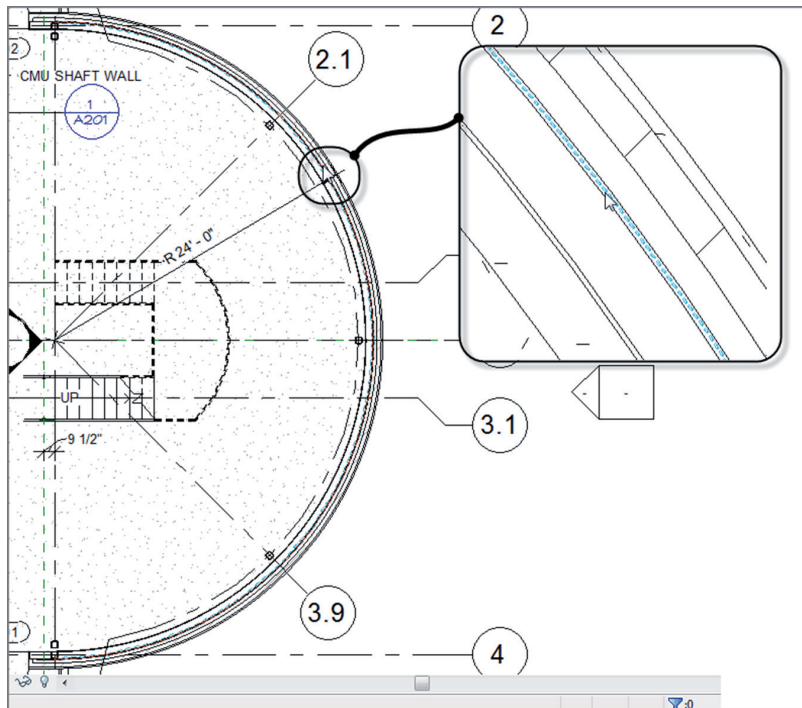

FIGURE BC1.25: Picking the radial entry wall to add the curtain wall
16. Pick the radial entry wall, as shown in Figure BC1.25. Make sure you're picking the wall centerline.